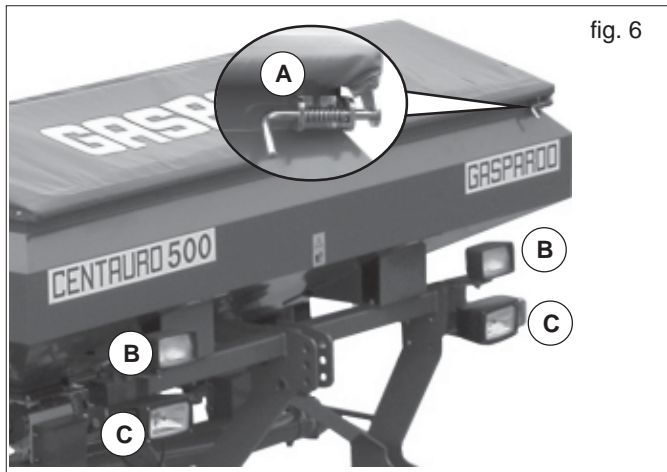

fig. 6
- 34) All road transport must only be carried out with the tanks and hoppers empty and at max speed of 25 km/h. For the transport on the road it must be assured the cover with the appropriate one pulling of coupling (A, Fig. 6). Periodically, it is necessary to verify the degree of deterioration of pulling and to the occurrence to replace it.
- 37) When the dimensions of carried or partially-carried equipment conceal the tractor's signalling and lighting devices, these must also be installed on the equipment itself, in conformity with regulations of the highway code of the country involved. When in operation make sure that the lighting system is in perfect working order. The transport on the road must be done with light (B, Fig. 6) turned off. The orientation of the light (C, Fig. 6) must be done in conformity with regulations of the highway code of the country involved.